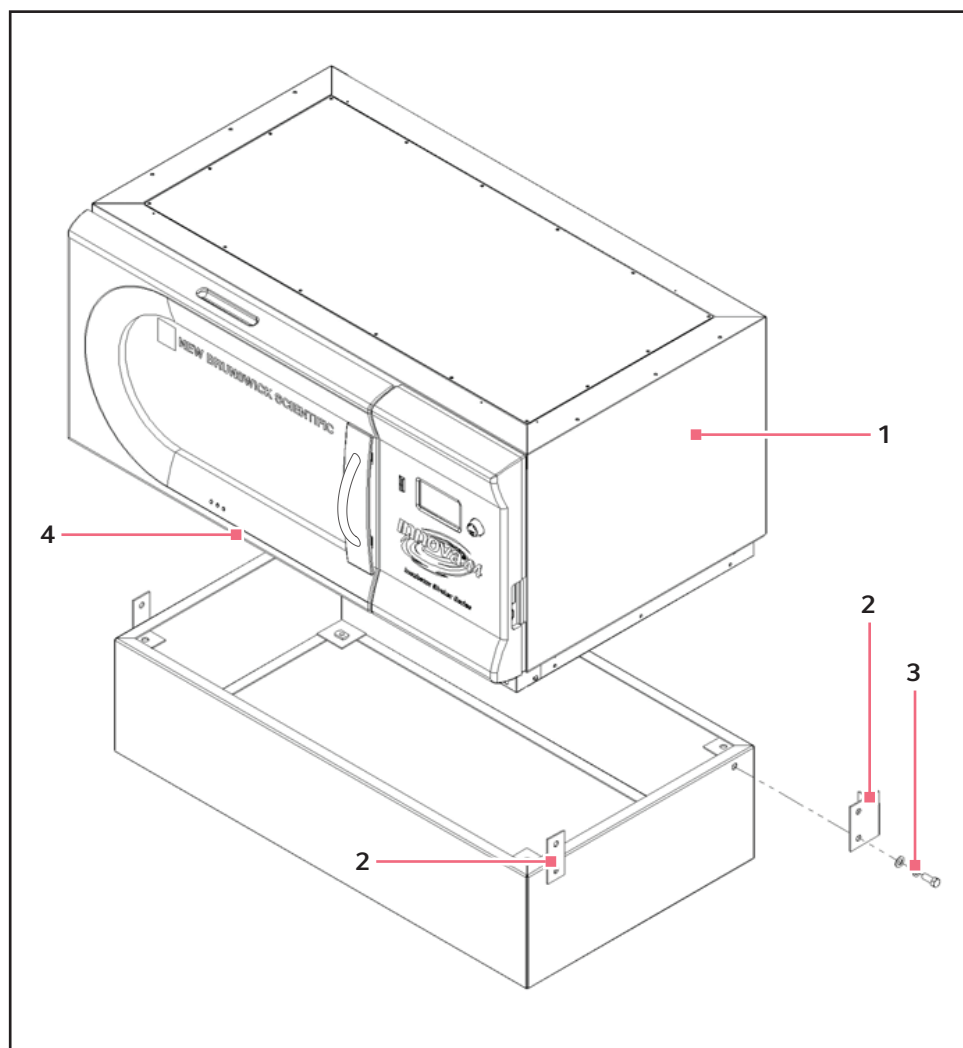

Fig. 6-3: Mount Shaker on Base
4. Remove the set screws from the bottom sides of the shaker that correspond to the mounting holes for the rear corner braces (see Fig. 6-3 on p. 24).